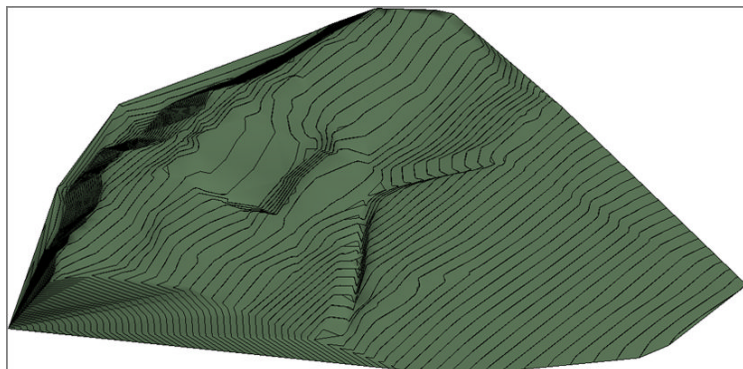

FIGURE 18.33: The new toposurface in Revit
9. Go to a 3D view. Your toposurface should look like Figure 18.33.